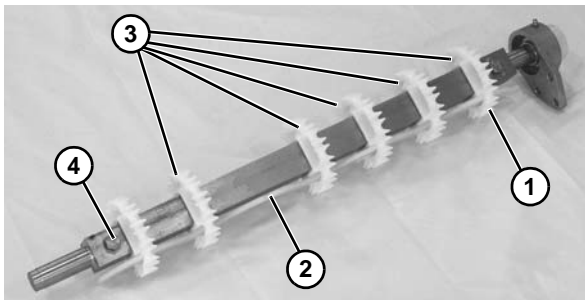

Figure 68
1. Slide the first sprocket (**Figure 68, item 1**) onto the spindle shaft.
2. Insert the sprocket alignment bar (**Figure 68, item 2**) into the first sprocket (**Figure 68, item 1**). Position the first sprocket with the notch in the sprocket alignment bar.
3. Install the remaining sprockets (**Figure 68, item 3**) making sure to position each sprocket with the next available notch in the sprocket alignment bar.
4. Secure sprockets in place with bolt (**Figure 68, item 4**).